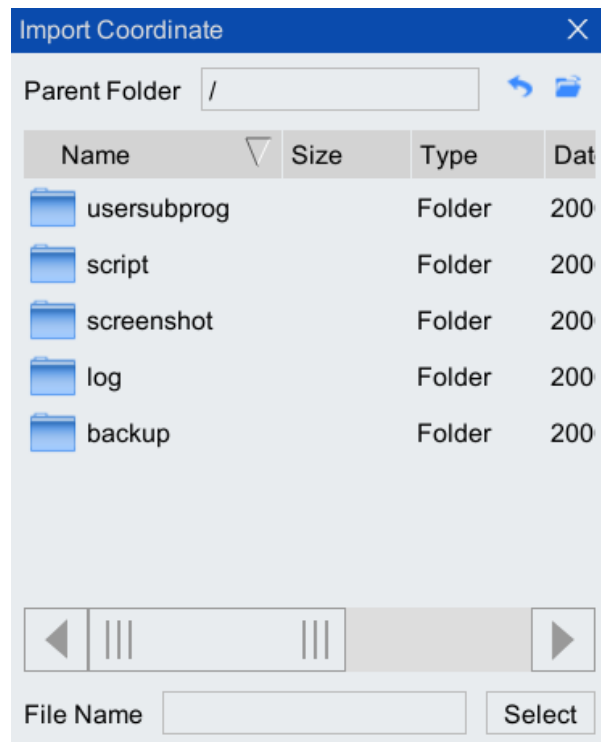

Figure 7-10 "Import coordinate system" list box
Step1. In the main interface of the teach pendant, click "File > Restore Backup > Coordinate System File" option, and the "Import Coordinate" list box as shown in Figure 7-10 will pop up.